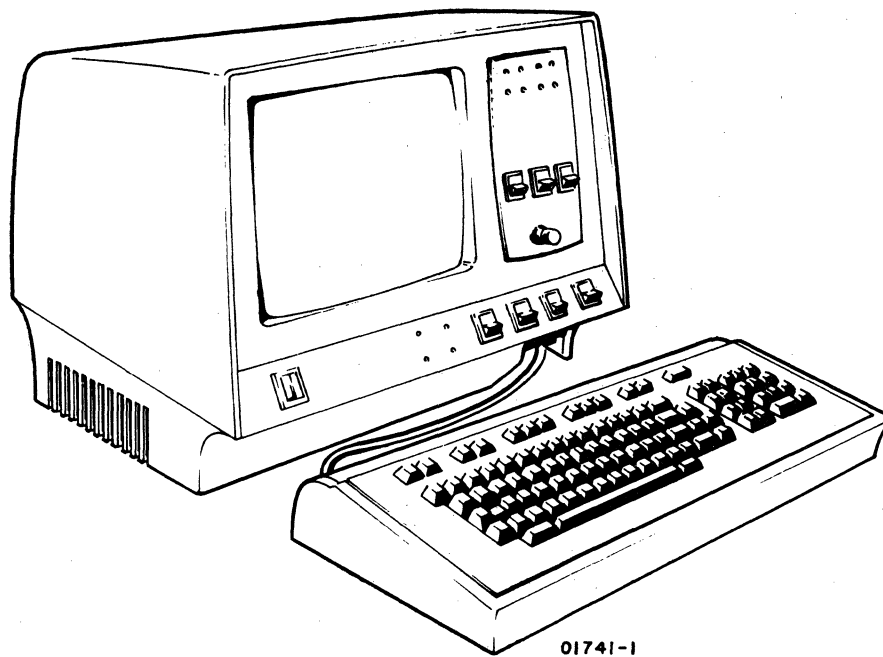

Figure 3-7. Attaching Keyboard to Display Cabinet
- 3) Refer to figure 3-7 and attach keyboard cable connector to display cabinet where shown. Secure connector with two retaining screws.